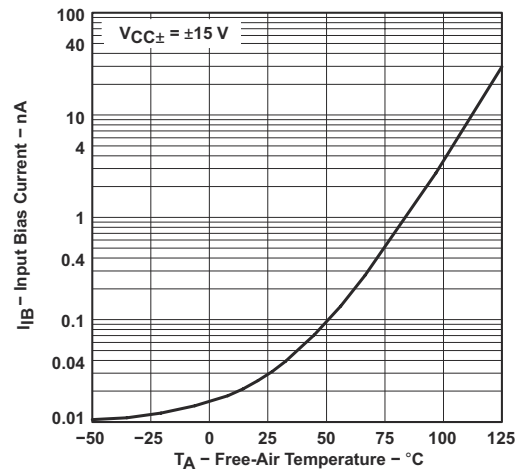

图 6-12. Input Bias Current vs Free-Air Temperature
- (1) All characteristics are measured under open-loop conditions with zero common-mode input voltage unless otherwise specified. Full range for  $T_A$  is  $0^\circ\text{C}$  to  $70^\circ\text{C}$  for TL06xC, TL06xAC, and TL06xBC and  $-40^\circ\text{C}$  to  $85^\circ\text{C}$  for TL06xI.
- (2) Input bias currents of an FET-input operational amplifier are normal junction reverse currents, which are temperature sensitive, as shown in Fig 6-12. Pulse techniques are used to maintain the junction temperature as close to the ambient temperature as possible.
- (3) Specified by design and characterization; not production tested.
- (1) All characteristics are measured under open-loop conditions with zero common-mode input voltage, unless otherwise specified. Full range for  $T_A$  is  $0^\circ\text{C}$  to  $70^\circ\text{C}$  for TL06xC, TL06xAC, and TL06xBC and  $-40^\circ\text{C}$  to  $85^\circ\text{C}$  for TL06xl.
- (3) Assured by design and characterization; not production tested.
- (1) This parameter is not production tested.
- (2) All characteristics are measured under open-loop conditions, with zero common-mode voltage, unless otherwise specified.
- (3) Input bias currents of an FET-input operational amplifier are normal junction reverse currents, which are temperature sensitive, as shown in Fig 6-12. Pulse techniques are used to maintain the junction temperature as close to the ambient temperature as possible.
- (4) Specified by design and characterization; not production tested.